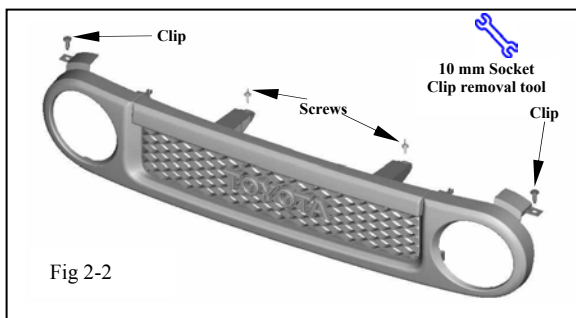

Fig 2-2
- (b) Remove grille from vehicle by removing 2 screws and 2 clips (Fig. 2-2). Save for reinstallation.